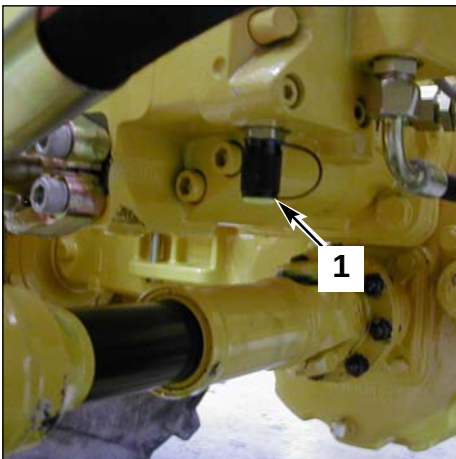

Fig. 1 Transfer movement engine
- 2- Measure the pressure (1 fig. 1) using the manometer.